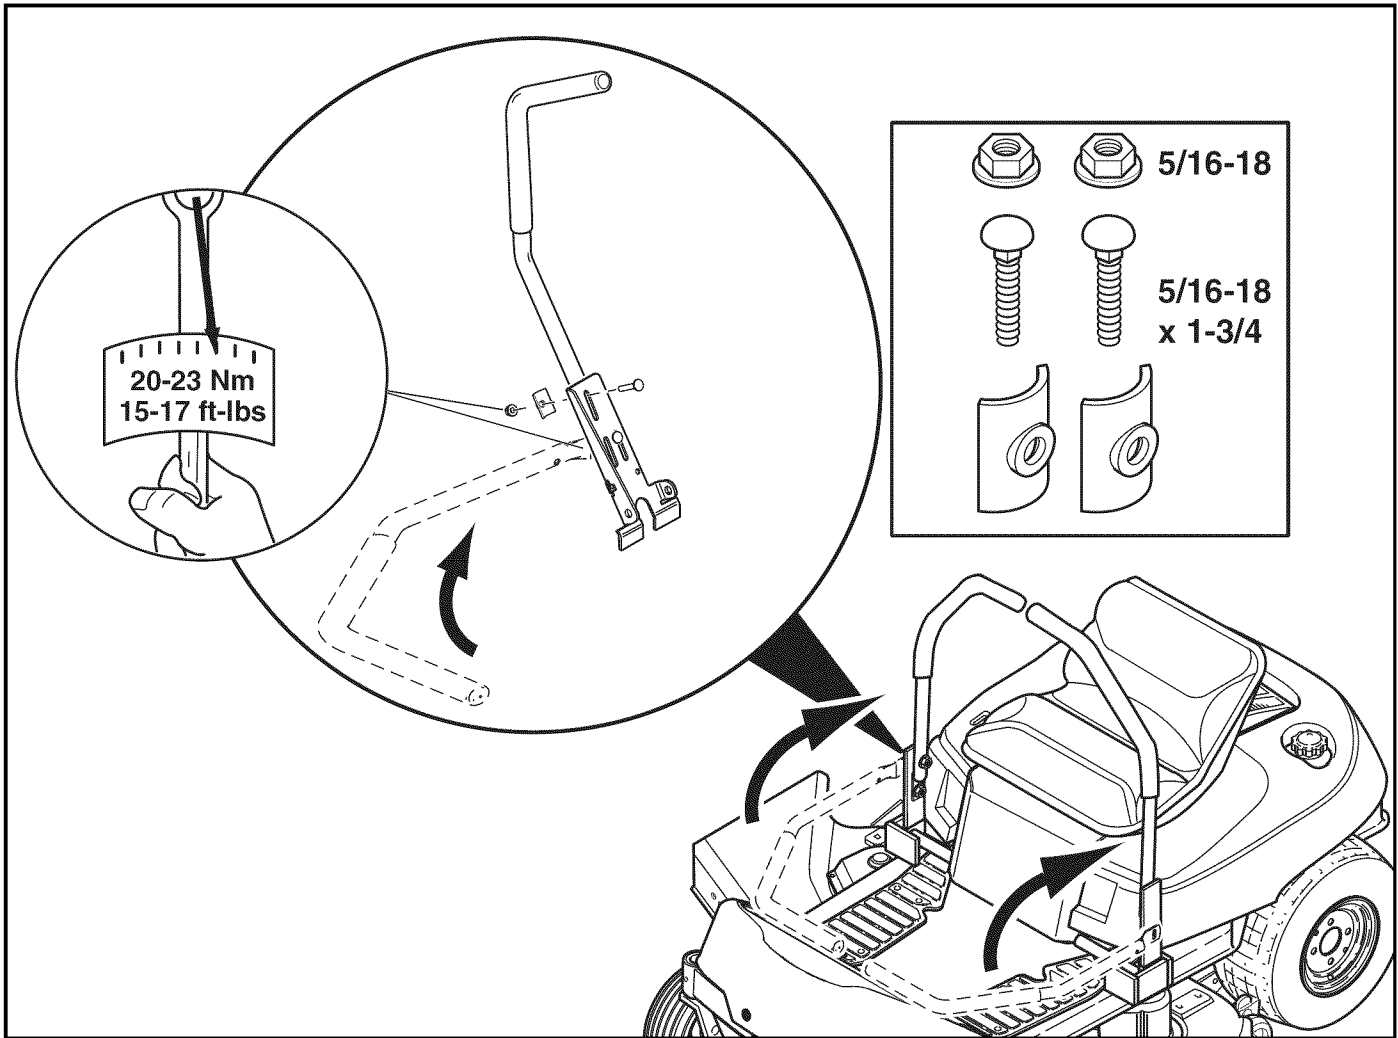

Figure 3. Setting Up the Ground Speed Control Levers
3. Install the hardware as shown in Figure 3. Tighten to 15-17 ft-lbs (20-23 Nm).